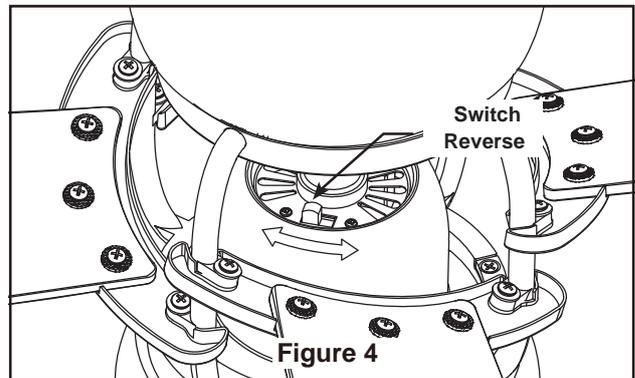

Figure 4
3. Hook the motor assembly onto the ceiling bracket assembly as shown. (Figure 4)
4. Secure the motor assembly onto the ceiling bracket assembly with four screws. (Figure 4)
4. Remove the three screws in the motor assembly. Assemble the switch housing assembly onto the motor assembly using the three screws and securely tighten. (Figure 4)
4. Remove the one of three screws in the shade assembly. Slightly loosen the remaining two screws. Assemble the socket plate assembly to the shade assembly using the two key slots in socket plate assembly. Replace the third screw and securely tighten all three screws. (Figure 4)
4. If airflow is desired in the opposite direction, turn the fan off and wait for the blades to stop turning. Then slide the reverse switch on top of motor assembly to the opposite position and turn fan on again. (Figure 4)
4. Loosen the wire connectors of receiver. After replace the new receiver, then operate the setting process again. The connecting receiver wires as shown. (Figure 4)